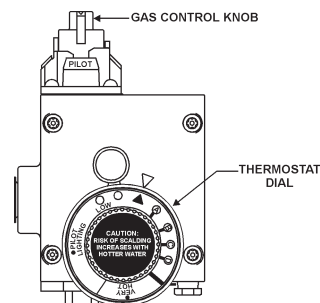

FIGURE 17.
**HOTTER WATER CAN SCALD:** Water heaters are intended to produce hot water. Water heated to a temperature which will satisfy space heating, clothes washing, dish washing, and other sanitizing needs can scald and permanently injure you upon contact. Some people are more likely to be permanently injured by hot water than others. These include the elderly, children, the infirm, or physically/mentally handicapped. If anyone using hot water in your home fits into one of these groups or if there is a local code or state law requiring a certain temperature water at the hot water tap, then you must take special precautions. In addition to using the lowest possible temperature setting that satisfies your hot water needs, a means such as a mixing valve should be used at the hot water taps used by these people or at the water heater. Mixing valves are available at plumbing supply or hardware stores, see Figure 6. Follow manufacturer's instructions for installation of the valves. Before changing the factory setting on the thermostat, read the "Temperature Regulation" section in this manual, see Figures 17 and 18.